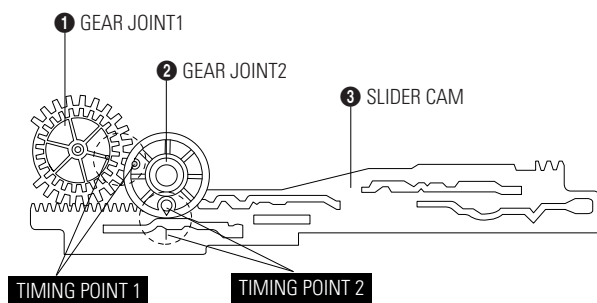

Fig. 3-12 Gear Joint 1,2 Assembly
- 1) Be sure to align dot mark of Gear Joint 1 ❶ with dot mark of Gear Joint 2 ❷ as shown Fig 3-12.